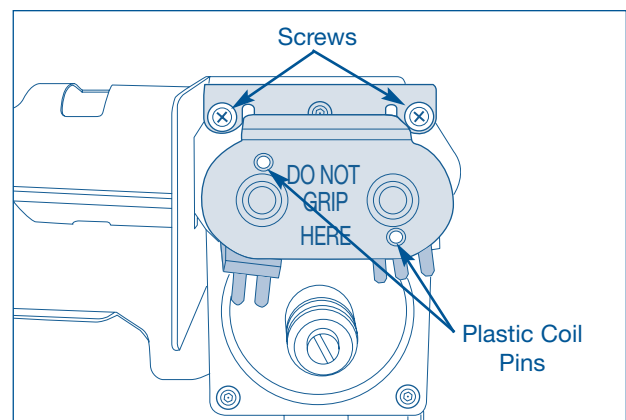

Figure 4-49.
3. Using a #2 Phillips head screwdriver, extract two screws securing the coil bracket to the valve body. Remove bracket from valve body. (See Figure 4-49)